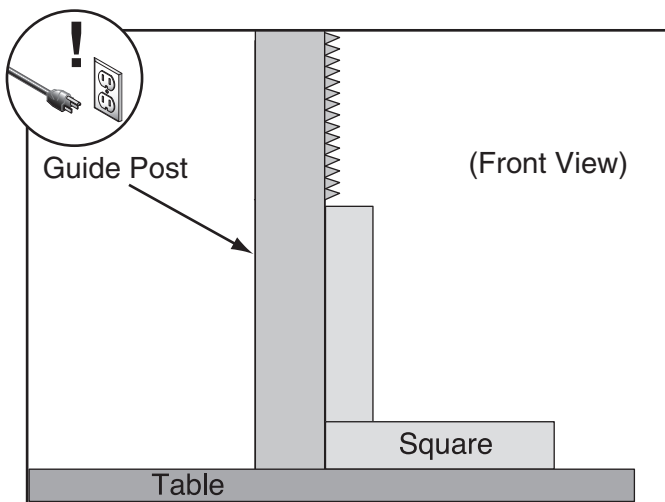

Figure 109. Example of checking guide post squareness.
3. Place a machinist's square on the table next to the right hand side of the guide post, as shown in **Figure 109**.